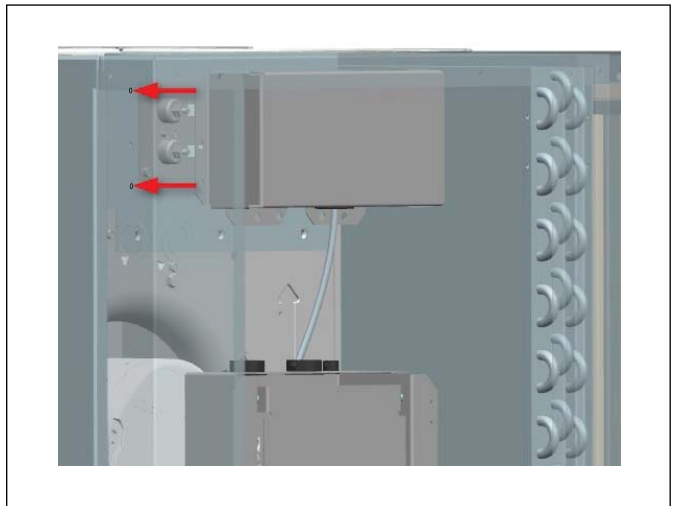

Figure 27
10. Line the element cover with the holes on the heating collar and screw in (figure 27).